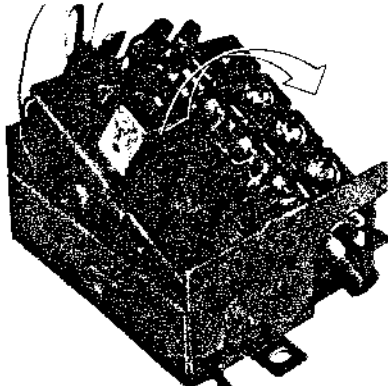

Fig. 2-20
- Remove the circuit board in the direction shown by the arrow in Fig. 2-20.